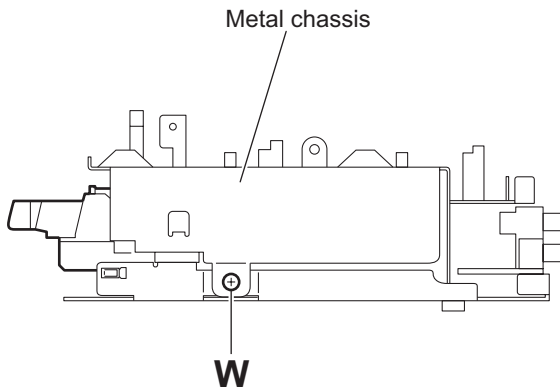

Fig.25
(See Figs.25 to 28)**
- From the right side of the main body, remove the screw **W** attaching the metal chassis. (See Fig.25.)